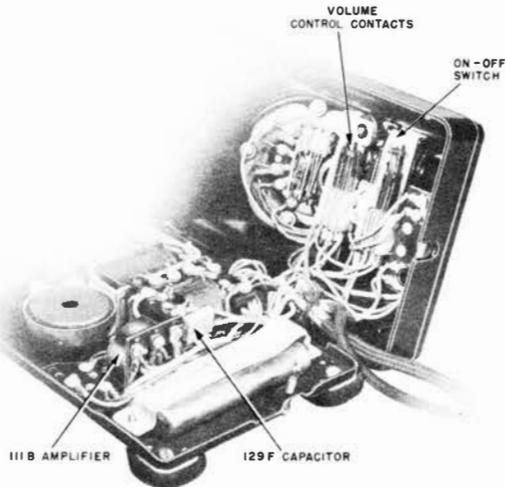

FIG. 3—111B AMPLIFIER AND 129F CAPACITOR
- Both sets are equipped with a 111B amplifier and a 129F capacitor (see Fig. 3).